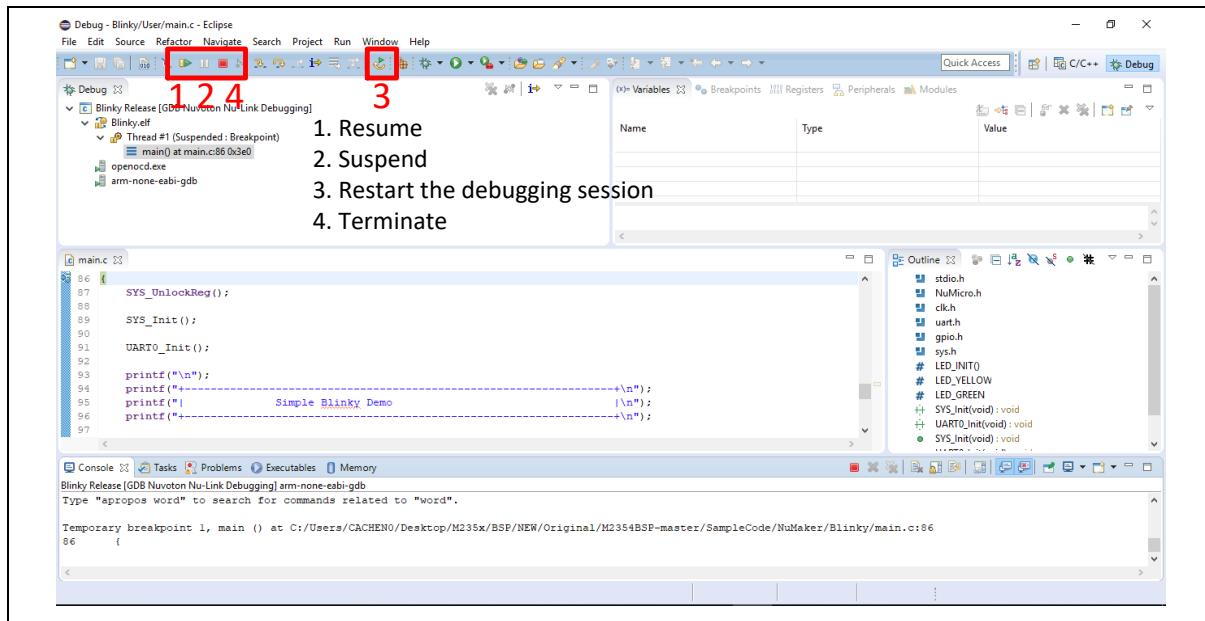
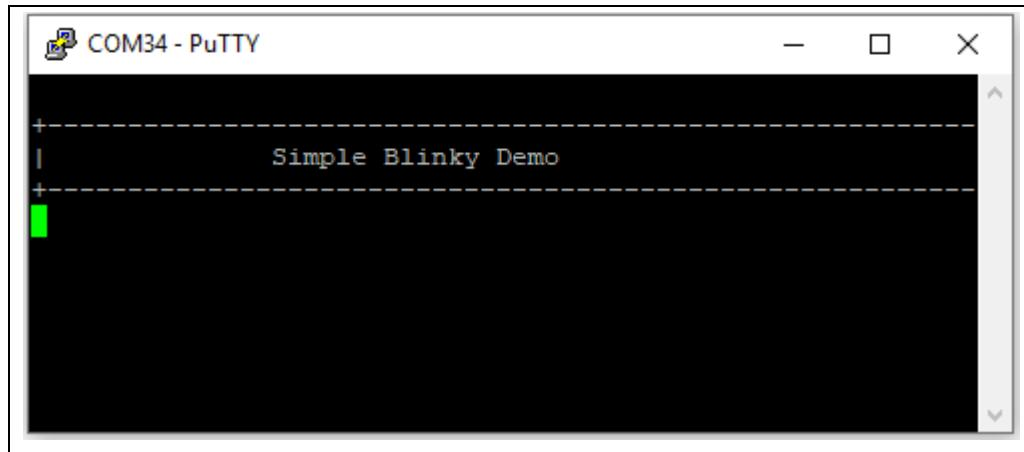

Figure 4-26 NuEclipse Debug Mode
Figure 4-27 Debug Message on Serial Port Terminal Windows
6. Figure 4-26 shows the debug mode under NuEclipse. Click “Resume” and the debug message will be printed out as shown in Figure 4-27. User can debug the project under debug mode by checking source code, assembly language, peripherals’ registers, and setting breakpoint, step run, value monitor, etc. For more information about how to use NuEclipse, please refer to the NuEclipse User Manual.